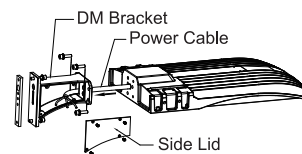

Figure 5
1. Open the side lid of direct bracket, let the wire of the lamp go through the direct bracket. (Figure 5)